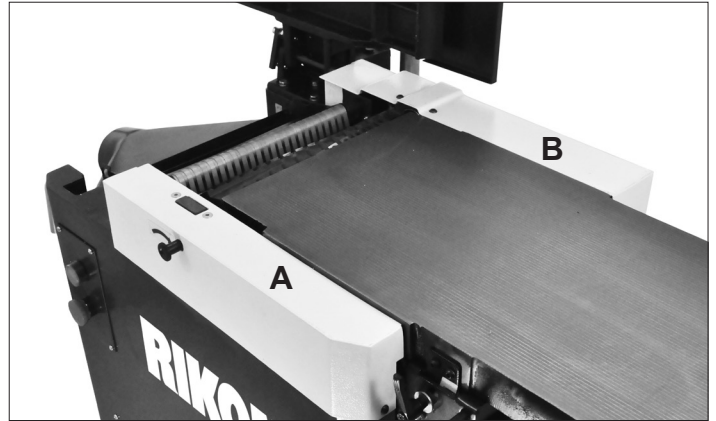

FIG. 21
2. With the outfeed table up, the Front Cover (#136, A) and Rear Cover (#131, B) must be removed to access the bolts that will adjust the infeed table. FIG. 21.